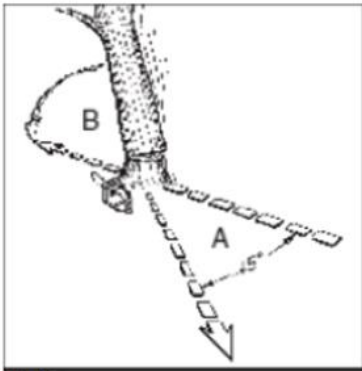

Fig 3a
**Warning:** Before starting to cut, an escape route (A) must be provided and cleared. The escape route must extend backwards and diagonally, opposite the direction of fall, as in Fig. 3a.
**Note:** the direction of fall (B) is controlled by the plug. Before making a cut, study the position of larger branches and the natural inclination of the tree to determine the direction of the tree's fall.
**WARNING:** When the felling cut approaches the hinge, the tree should begin to fall. When the tree begins to fall, remove the saw from the cut, stop the engine, lower the chainsaw and leave the area on the escape route (Fig. 3a).